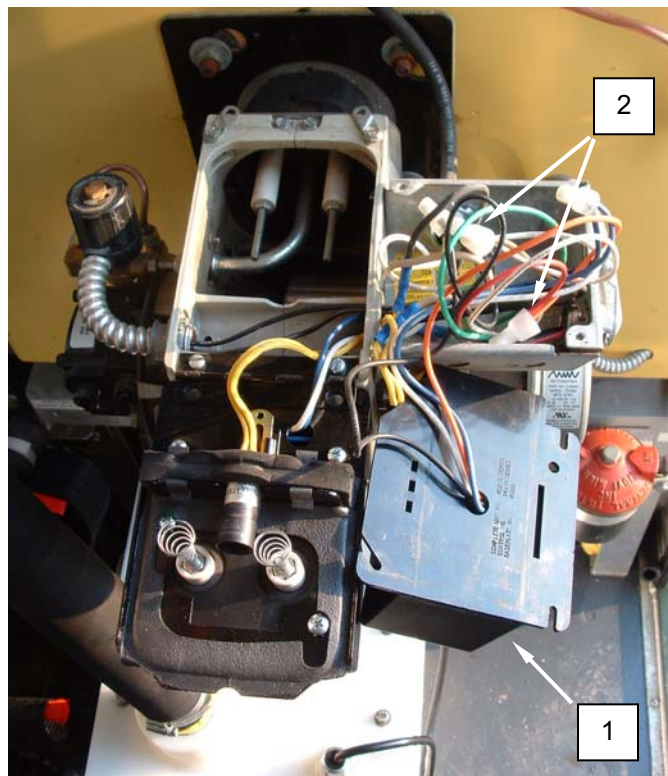

Figure 1. Replace the Motor.
2. Remove screw retaining burner primary control (**Figure 1, Item 1**), and remove burner primary control.
3. Tag and disconnect motor wiring at connections (**Figure 1, Item 2**).
8. Connect wiring (**Figure 1, Item 2**) as tagged.
9. Install burner primary control (**Figure 1, Item 1**), and retain with screw.